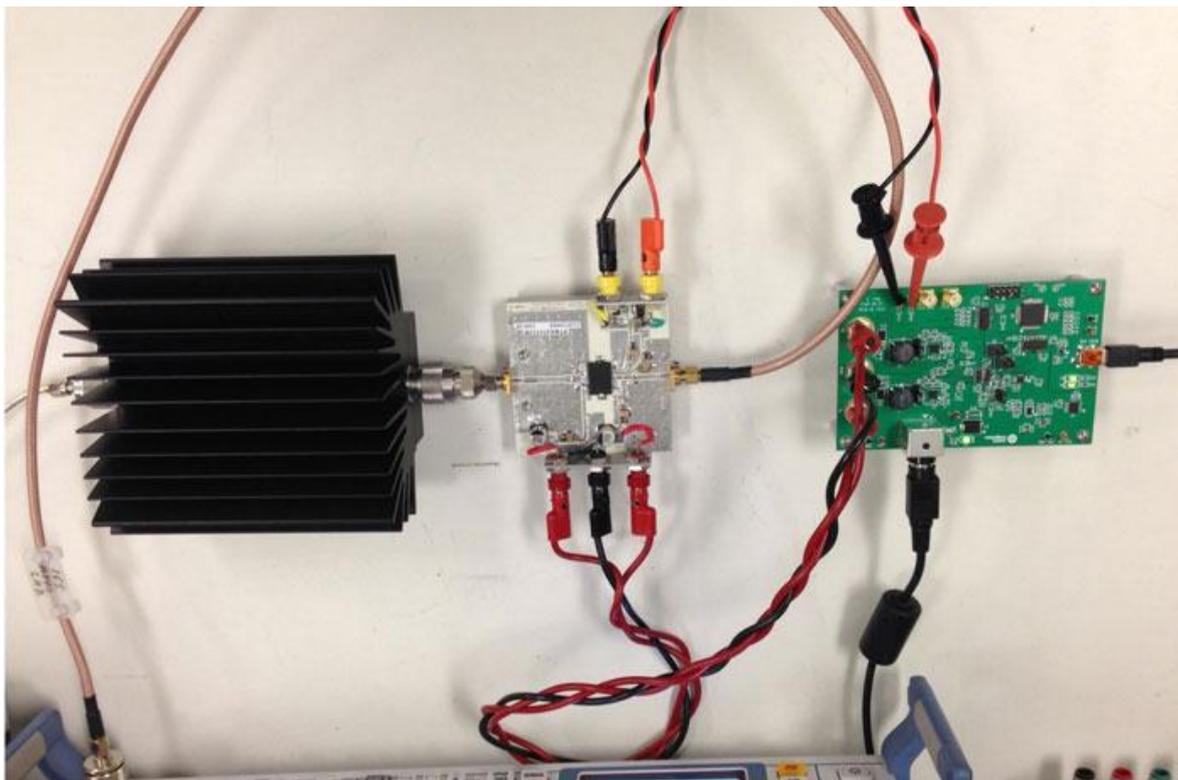

Figure 7, Connections of the MAXREFDES39# board with the PTMA210152M EV kit.
- Infineon PTMA210152M Power Amplifier Evaluation (EV) Kit (NOT included). For details, visit <http://www.infineon.com/cms/en/product/rf-and-wireless-control/rf-power/cellular-2000-mhz-to-2200-mhz/PTMA+210152M+-+20+W/productType.html?productType=db3a30431ed1d7b2011f36a16c303f45>
- Necessary cables to hook up the MAXREFDES39# board and power amplifier EV kit (**Figure 7**). In this case two red and one black 12” Banana - Banana cables and one orange and one black 12” Banana – Mini-grabber cables are used.
If the above tests pass, then connect the Power Amplifier EV kit as shown in **Figure 7**.